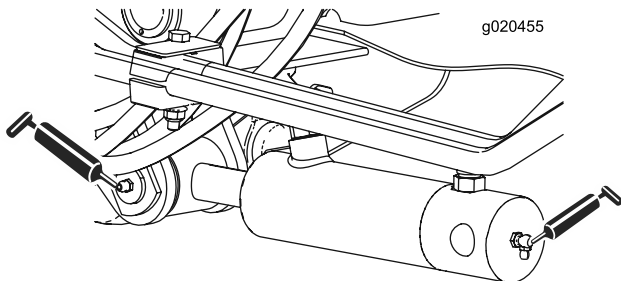

**Figure 81**
- 3 spindle-shaft bearings—located under the pulley (Figure 81)
- 2 idler-arm-pivot bushings (Figure 81)